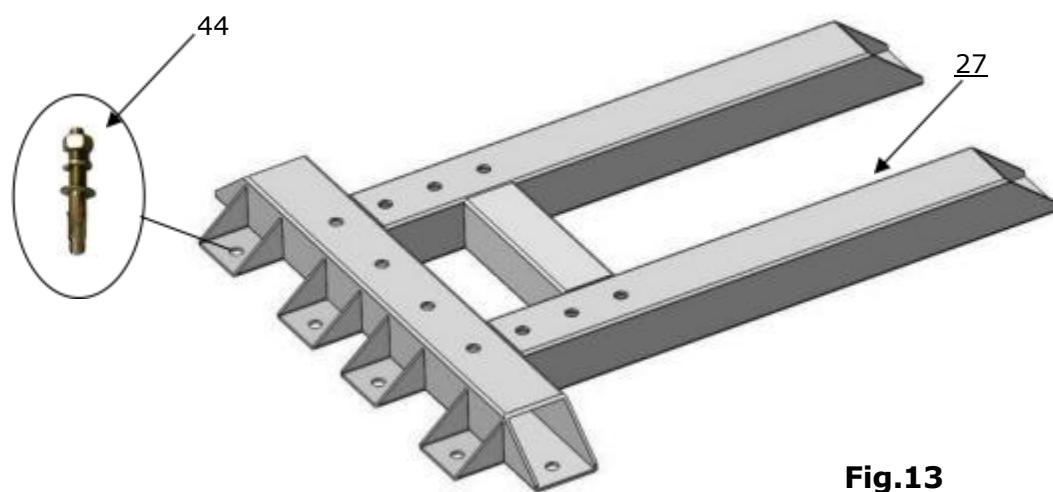

Fig.11
5. Check the parts of the parts box according to the parts box list. (See Fig.11)